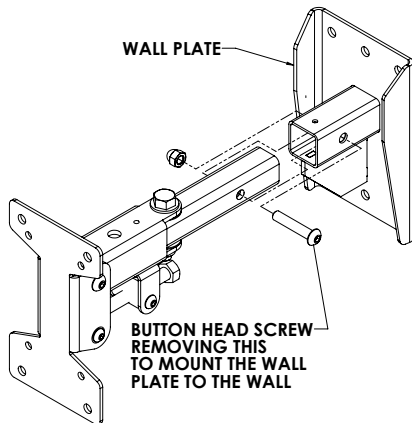

Figure 1
**Step 1:** Disassemble the wall plate, this will allow the wall plate to be mounted to the wall without the loudspeaker in the way (Figure 1).
Lift speaker and mount up to the wall mounting plate, feed wire in through the end of the support arm tube and out through the tube's upper hole. Re-attach speaker & mount assembly to the wall plate then secure with the button head screw (Figure 1).